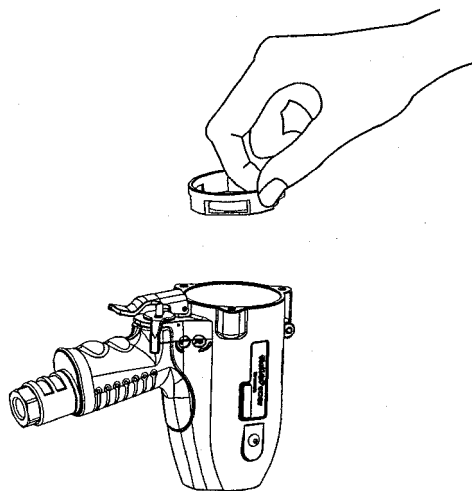

Fig. 188
(6) Motor housing, Pulse Unit, and Pulse Unit Housing Assembly
- (a) Put the lock washer into the housing. (Fig. 188)